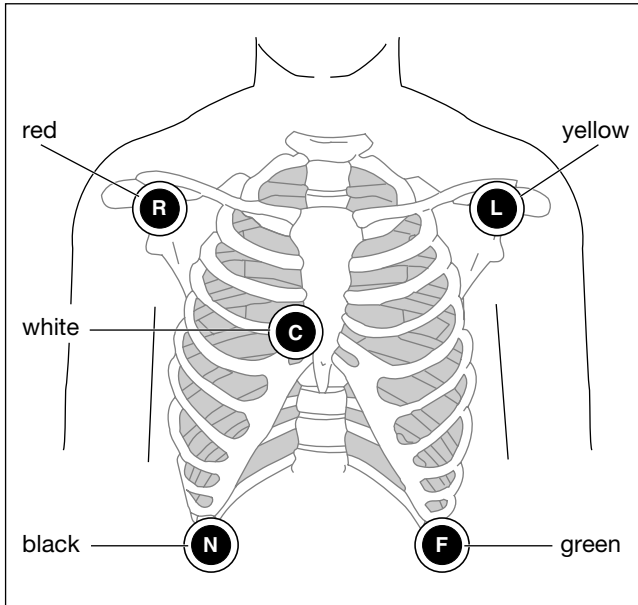
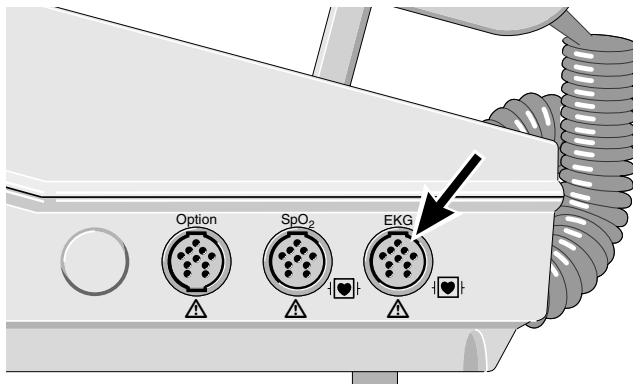

Figure 5-1. ECG electrode placement
Figure 5-2. ECG signal input
- * Apply the electrodes as shown in Figure 5-1 and connect them to **CardioServ** via the patient cable (Figure 5-2).
- * Check that **no patient cable** is connected to ECG signal input (Figure 5-2).